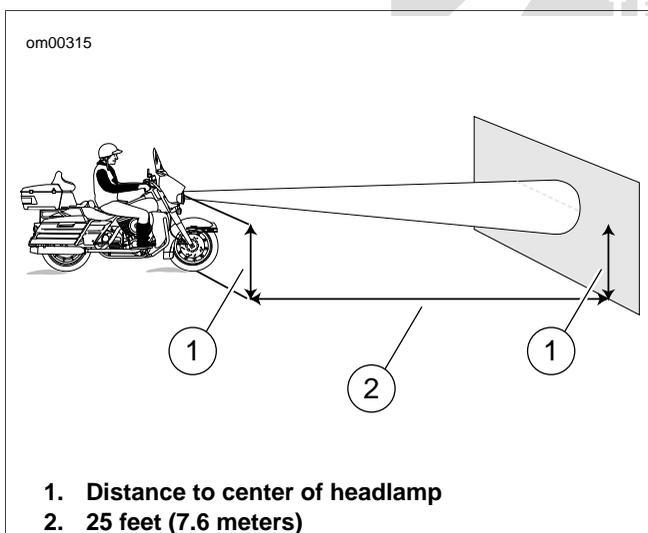

Figure 1-43. Check Headlamp Alignment: Touring Models
3. See Figure 1-43. Move motorcycle, so that patch of front tire directly below axle is 25 feet (7.6 meters) from wall.